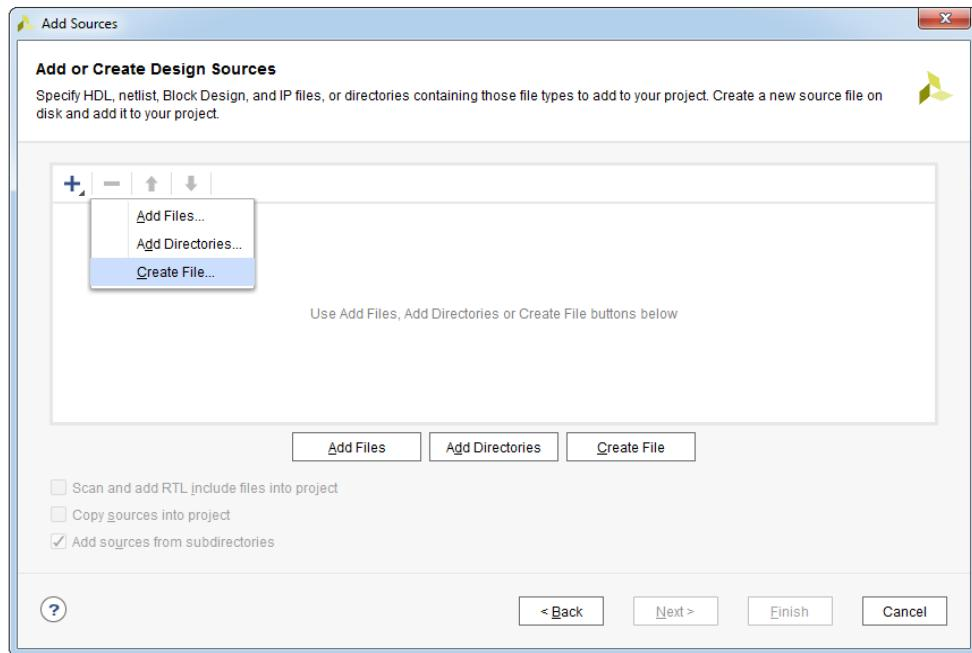

Figure 2.14: Add or Create Design Sources dialog box - Create File option
4. In the **Add or Create Design Sources** dialog box, click the + icon and select **Create File...** option to create a new file in the project, or just click **Create File** button, see Figure 2.14.